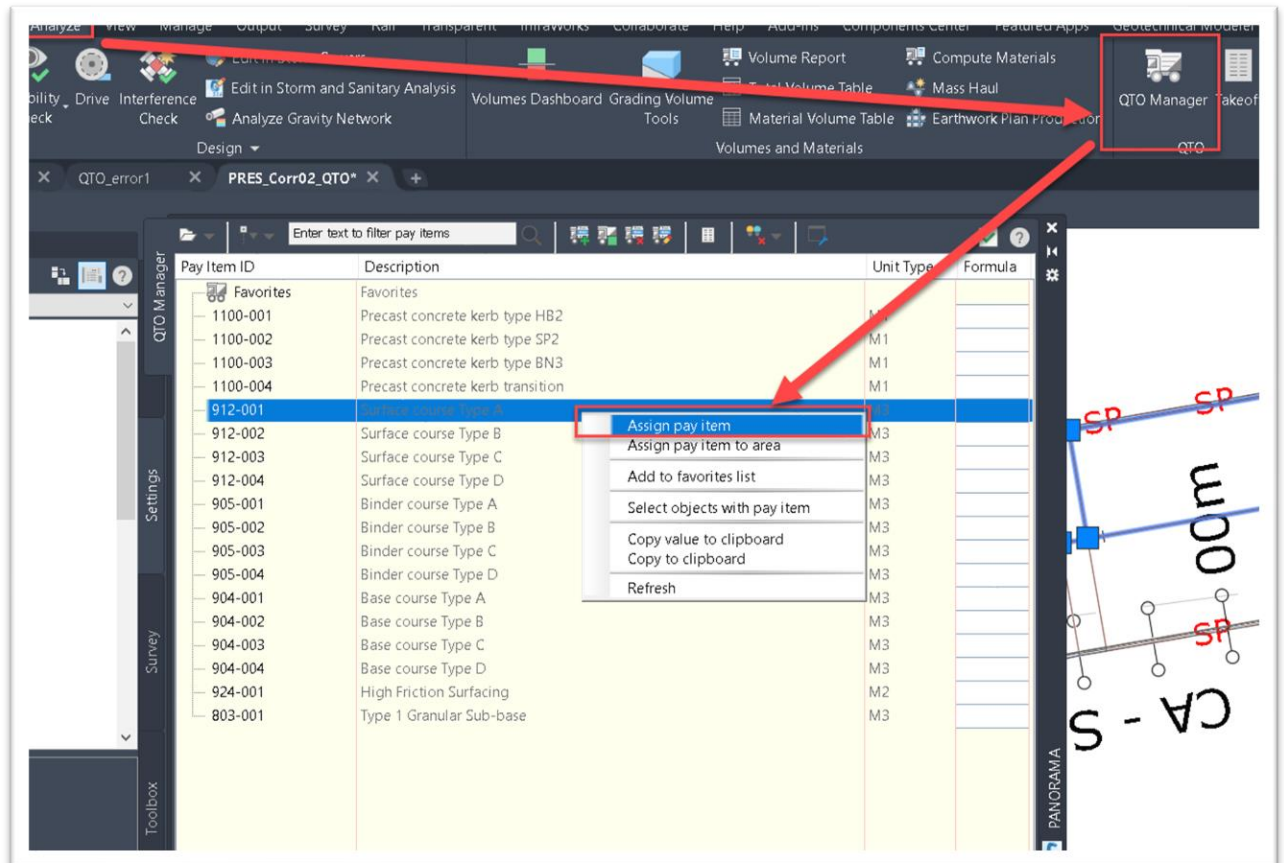

Figure 45 – Assign Pay Items to Corridor Solids
- Select the solids and assign a pay item as shown in Figure 45.